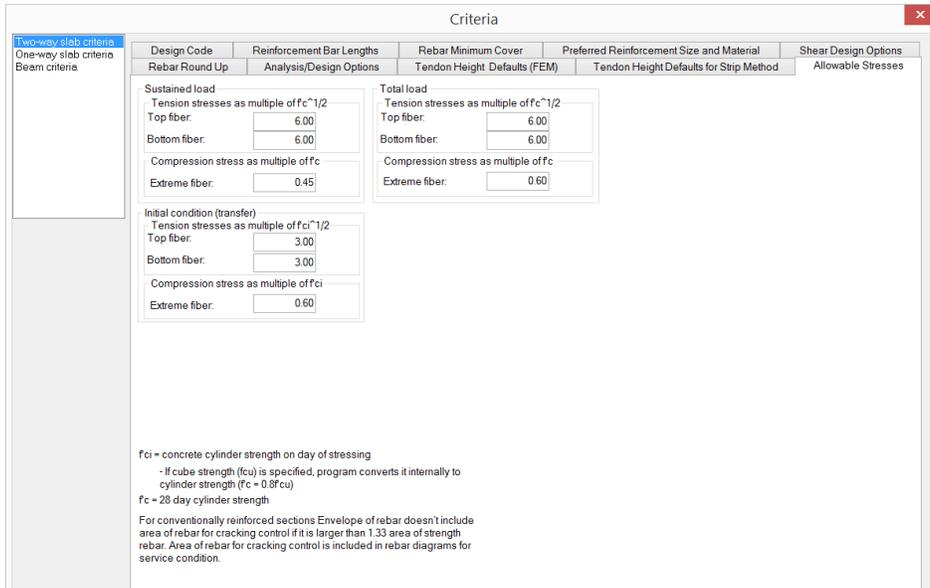

Figure 6.2-2 - Allowable Stresses for Prestressed Members
Allowable Stresses. The suggested values for the allowable stresses of each code are listed in the “Allowable Stresses” tab (Fig. 6.2-2). This tab will be displayed only if the program is opened with the prestressing option (PT) selected. Typically, the allowable stresses for both the final condition (service) and initial condition (transfer of prestressing) are listed.